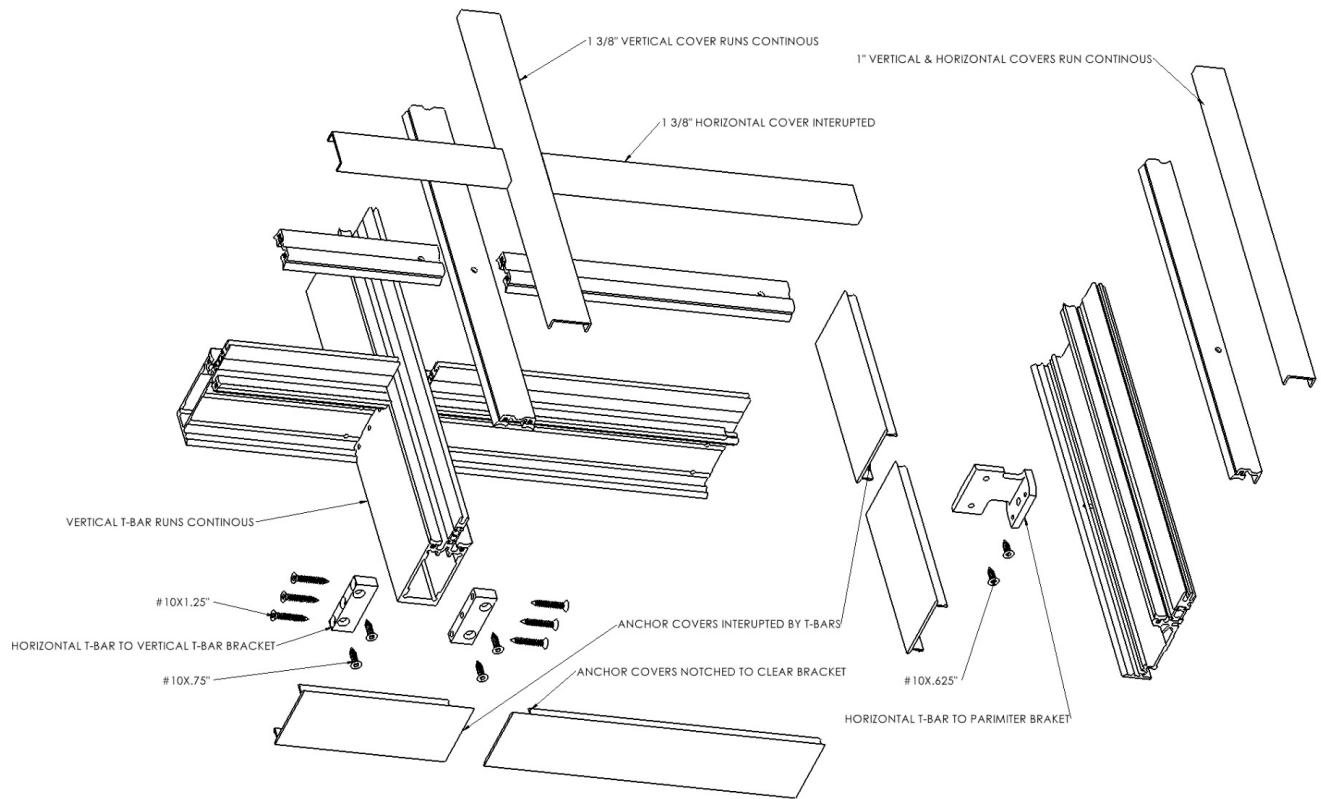

Figure 24
*** See Figure 24 for a magnified view of a horizontal T-bar, vertical T-bar, and perimeter frame intersections.*